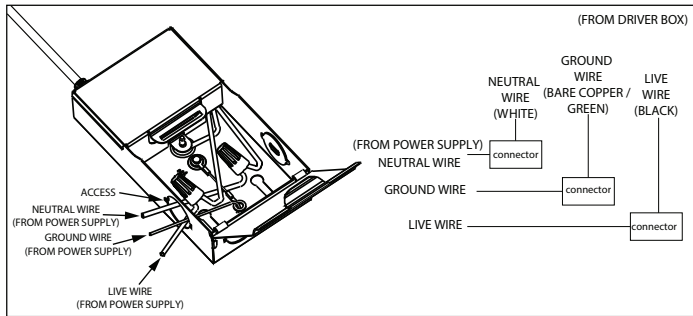

Figure 2 / Figura 2 / Schéma 2
■ Connect black wire to live wire, white wire to neutral wire, and green wire with ground (as shown) and secure using wago connector. Close the cover of the box. (Figure 2)